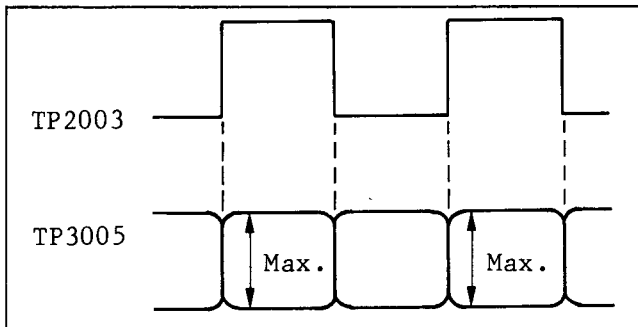

Fig. M28 Horizontal Position Adjustment of A/C Head-(2)
2. Playback the monoscope portion of the alignment tape VFMS0001H6 and note the envelope which corresponds to the high period of the Head Switching Signal at TP2003 as shown in Fig. M28